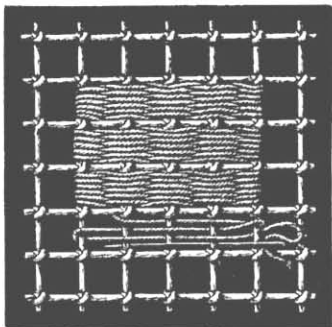

Fig. 13. Darning stitch.
**Darning stitch.** (figs. 13 and 14). — The simplest stitch for covering a net ground is darning stitch. It is done over a prescribed number of squares, across which the thread is carried backwards and forwards until they are filled in. It is the stitch generally used when a pattern consisting of counted stitches, such as a cross stitch one, is to be reproduced on a net ground.